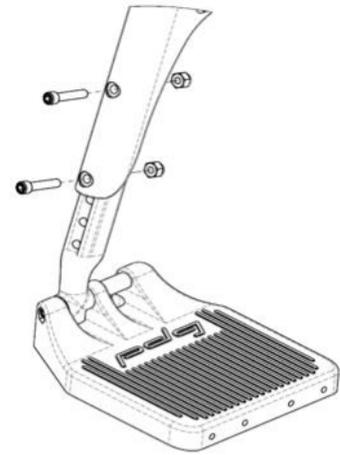

Figure 15.14: Standard Swing-Away footrest height adjustment
- Remove any padding and/or calf strap, if fitted. Remove the fastener and nut as shown in Figure 15.14.